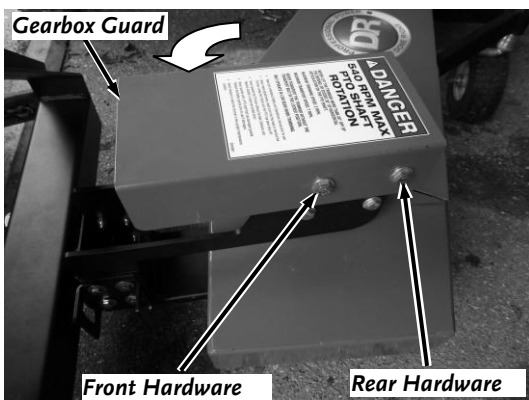

Figure 20
- Lower the Gearbox Guard and install the front Bolt, Washers and Locknut with two 11/16" Wrenches (Figure 20).